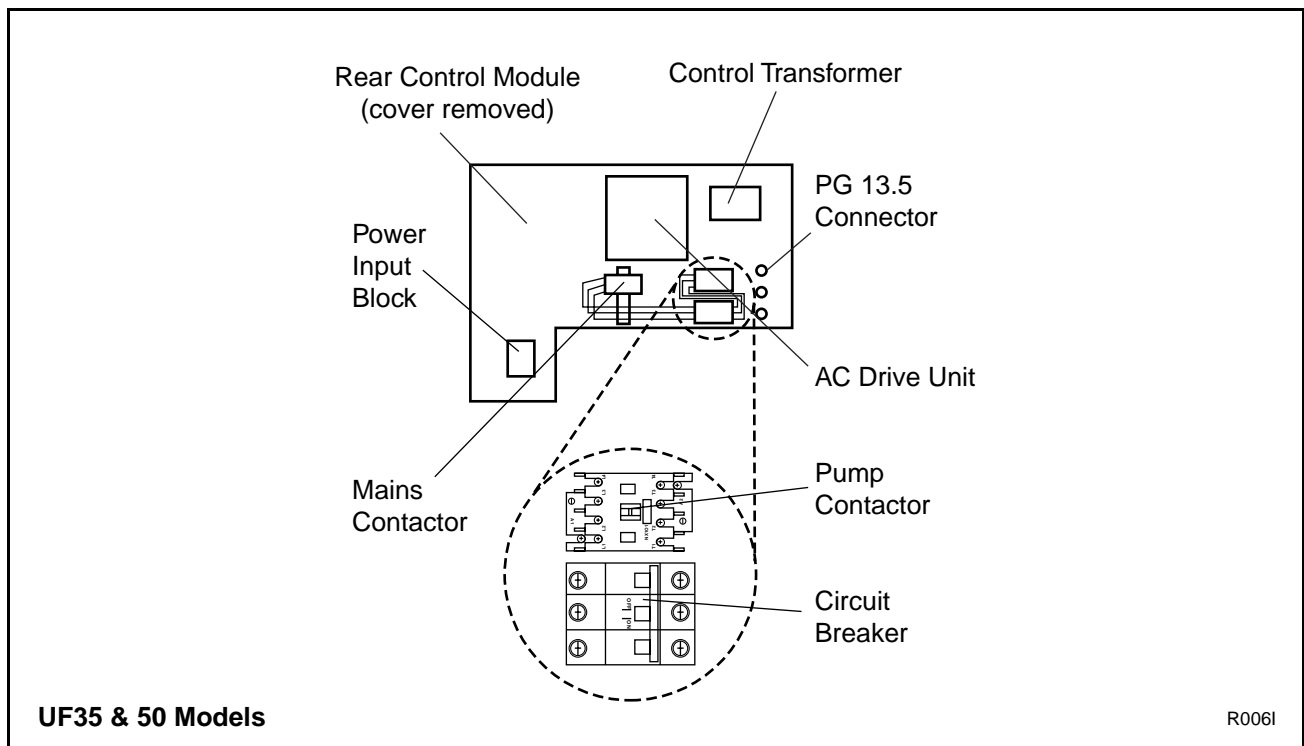
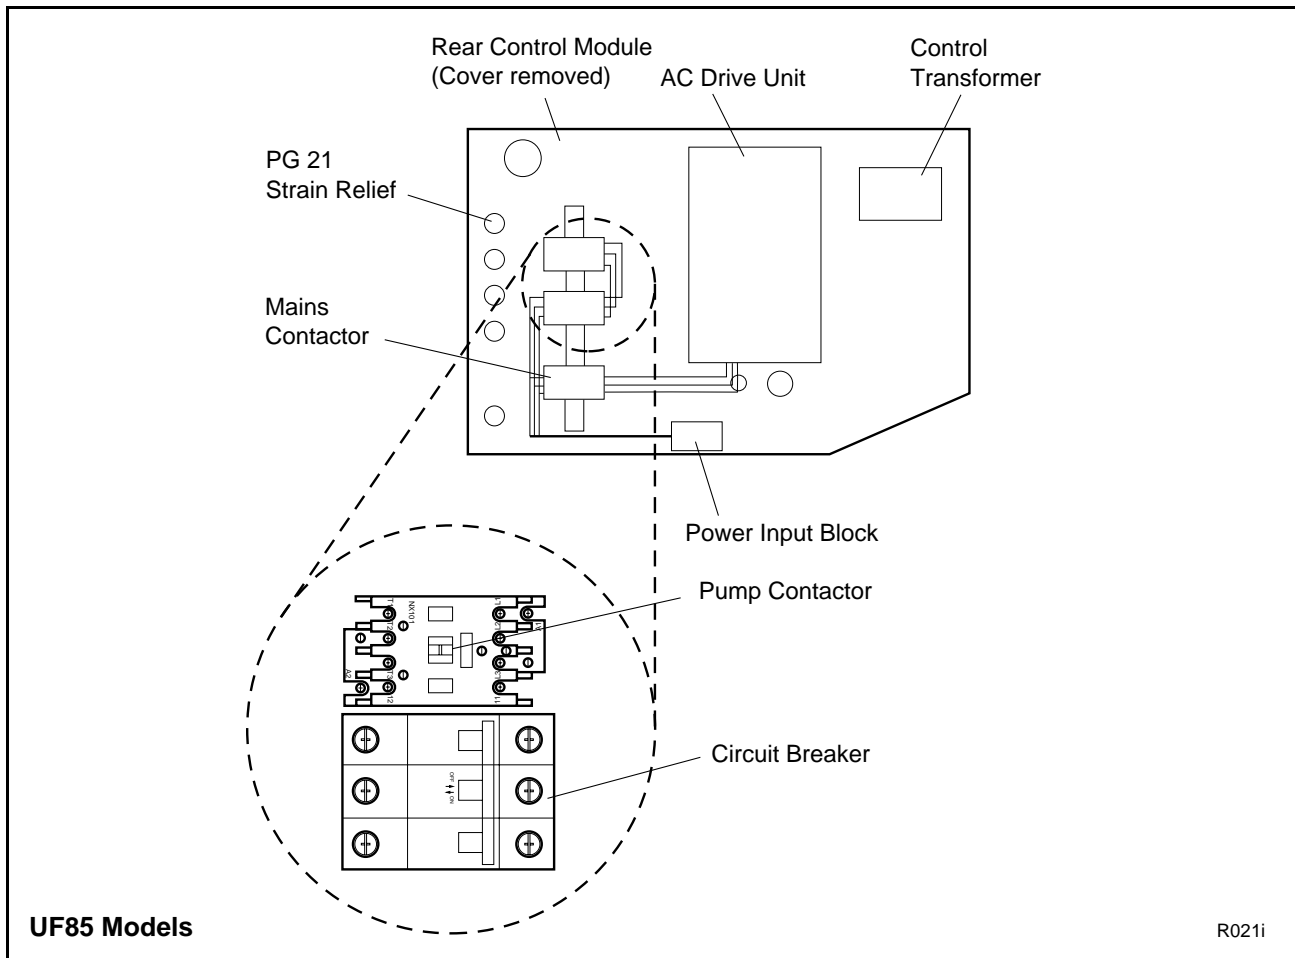

Figure 21
Figure 22
- b. *On the 35- and 50-pound models,* attach the pump contactor and the circuit breaker, included in the kit, to the mounting rail just below the control transformer on the right side of the AC drive unit as shown in Figure 21. *On the 85-pound models,* attach the pump contactor and the circuit breaker, included in the kit, to the mounting rail located to the left of the AC drive unit.
a. *On the 35- and 50-pound models,* remove the top two plugs of the three black plugs from the right side of the rear control module. These plugs are located just to the right of the pump contactor and circuit breaker. See Figure 21. *On the 85-pound models,* remove the second plug from the top located to the left of the pump contactor and circuit breaker. See Figure 22.